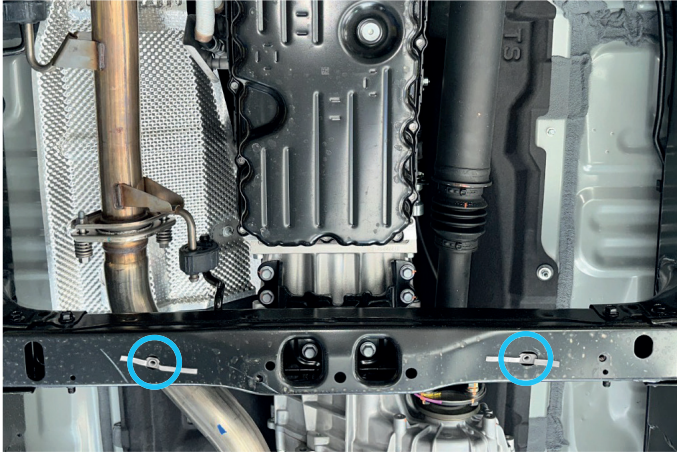

Fig. 5
5. Install M8x70 insert nuts (item D) as shown in fig.5.